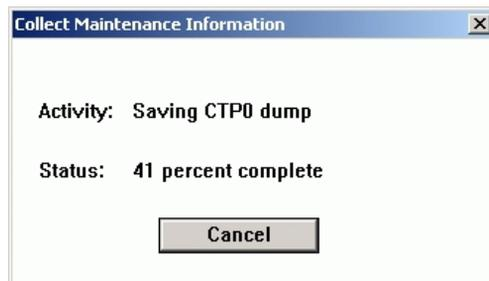

Figure 47 Collect Maintenance Information Dialog Box
2. Select the *Collect Maintenance Information* option from the *Maintenance* menu. The *Collect Maintenance Information* dialog box displays (Figure 47), showing status of files transferred from the director to the ESCON server hard drive.